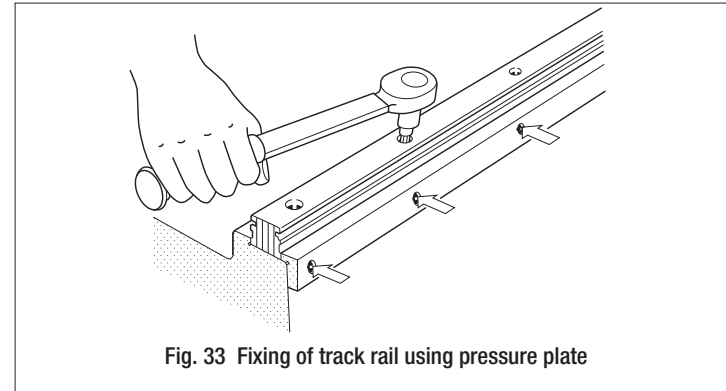

Fig. 33 Fixing of track rail using pressure plate
③ Final fixing of Linear Way I and II track rails
- Firmly press the reference mounting surface of Linear Way I track rail to the mating reference surface of the bed with pressure plates or pressure screws. Tighten the mounting bolt of the track rail at the pressure plate or screw position from one end of the track rail to the other in succession. (See Fig. 33.)